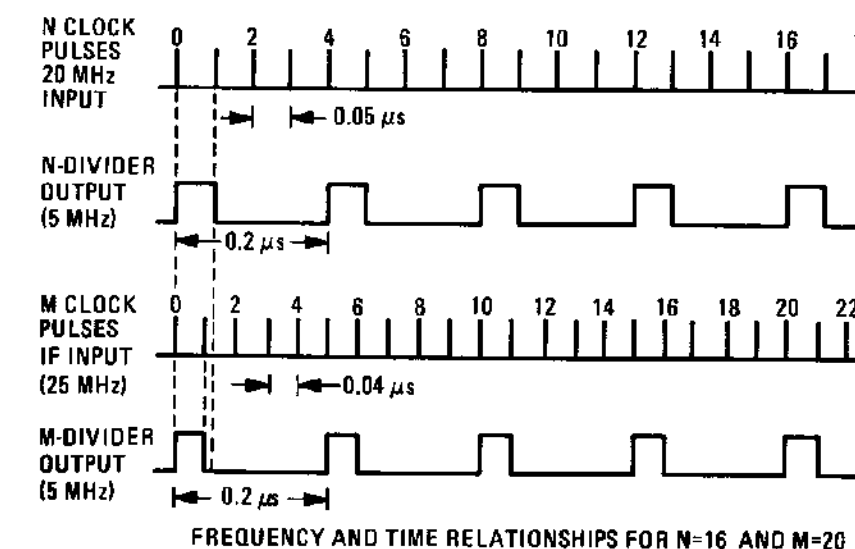

Figure 8-62. Divider Clock Pulses versus Output Pulses Timing Diagram
c. **Divide-by-1 or 2 Operation.** When the N input is equal to or greater than 16, the  $N_5$  or  $N_6$  inputs are high and the Divide-by-1 or 2 Decoder is enabled. Thus the Output Flip-Flop follows the Count Control Flip-Flop and each End of Count pulse is passed directly to the output. If  $N < 16$ , then the Divide-by-1 or 2 Decoder is enabled and therefore passes only every other End of Count pulse to set the Output Flip-Flop. (Refer to Table 8-38 and Figure 8-62).